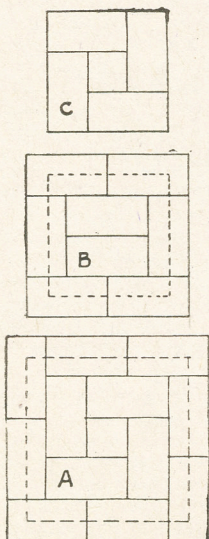

Fig. 3—Showing the brick courses in the pedestal
Now for the actual pedestal which is ten courses of bricks high, or about 2ft. 6ins. Four bricks are required here for each course and plan (C) in Fig. 3